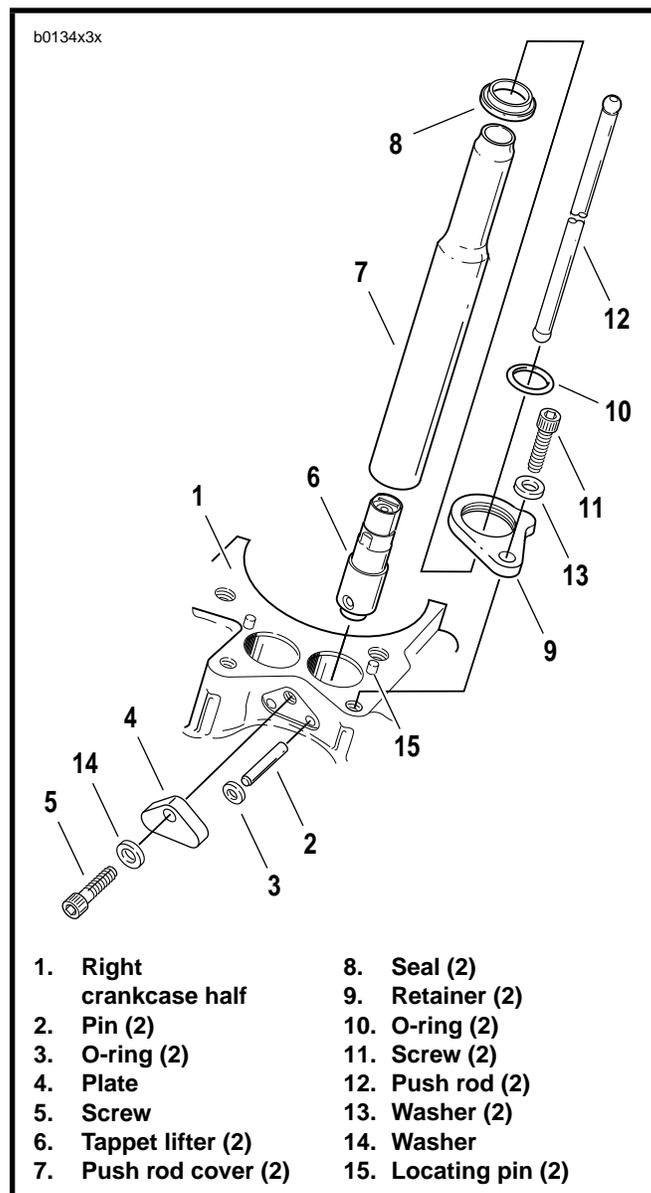

Figure 3-50. Valve Tappet Service
1. See Figure 3-50. Rotate engine so that both tappets (6), from the cylinder being serviced, will be installed on the base circle (lowest position) of the cam.
3. Insert tappet (6) into bore in crankcase (1). Rotate tappet so that flats at upper end of tappet face the front and rear of the engine. If the tappet is installed incorrectly, pins (2) cannot be inserted.
4. Insert pins (2) in the holes in crankcase. Place **new** O-rings (3) over ends of pins. Install plate (4) using screw (5) with washer (14). Tighten screw (5) to 80-110 **in-lbs** (9.0-12.4 Nm).
5. Slide **new** seal (8) and place retainer (9), over top of push rod cover (7). Position **new** O-ring (10) at top of push rod cover. Hold cover at an angle and insert top through hole in cylinder head. Push up on cover while aligning bottom of cover with tappet bore in crankcase. Lower retainer (9) with seal (8) onto crankcase, aligning locating pin (15) with hole in retainer.
6. Insert screw (11) with washer (13) through hole in retainer (9), and thread into tapped hole in crankcase. Tighten screw (11) to 15-18 ft-lbs (20-24 Nm).